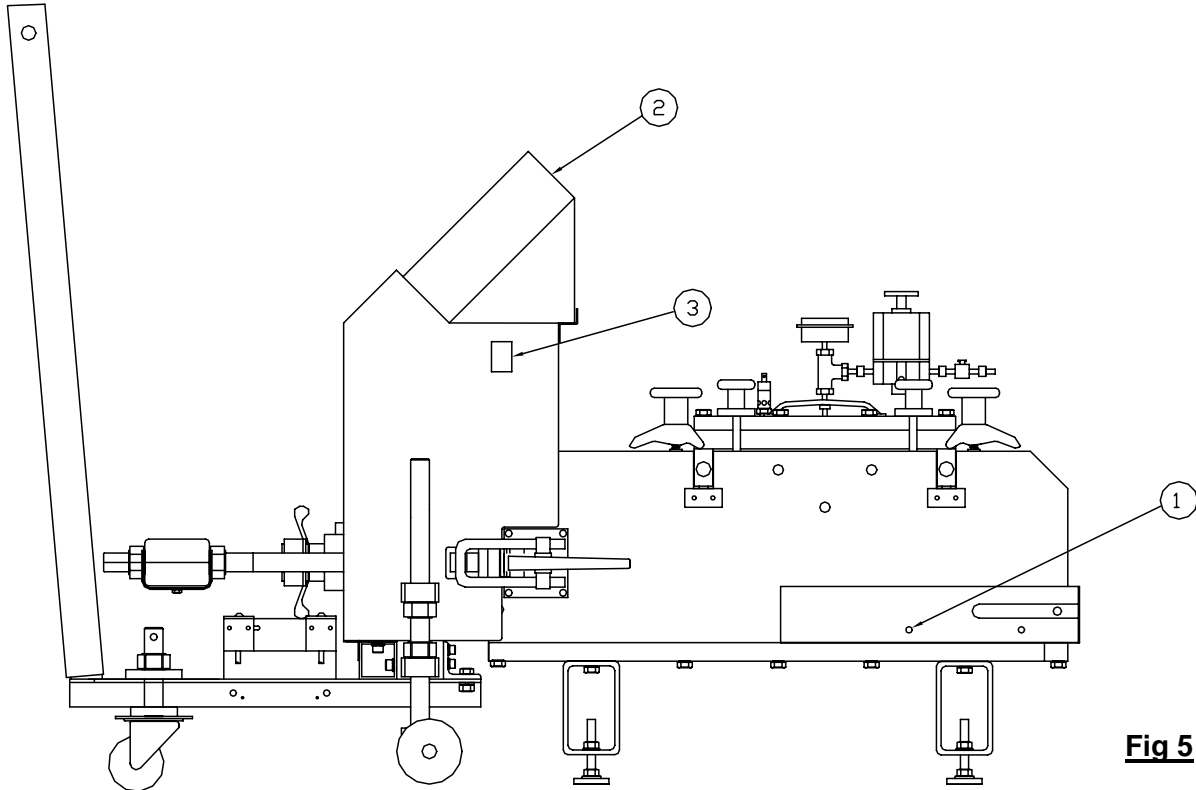

Fig 5
- 1.7 Install the Transducer Assembly (Figure 3) on the Shear Box. Place the stainless steel LDT housing over the studs protruding from the right rear (facing the assembled unit) of the Shear Box and tighten it in place with the supplied wing nuts (Figure 5, Item 1).
- 1.11 Plug the main power cord into the drive unit (Figure 5, Item 3).